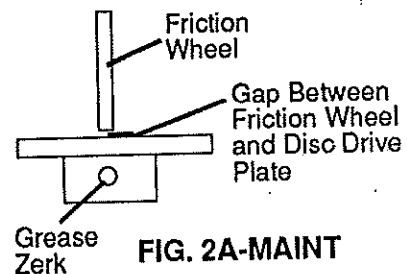

FIG. 2A-MAINT
- Place a coin or (a shim of equal thickness) between the rubber friction wheel and disc drive plate to prevent rubber friction wheel contacting the drive disc. (See **FIG. 2A-MAINT**)